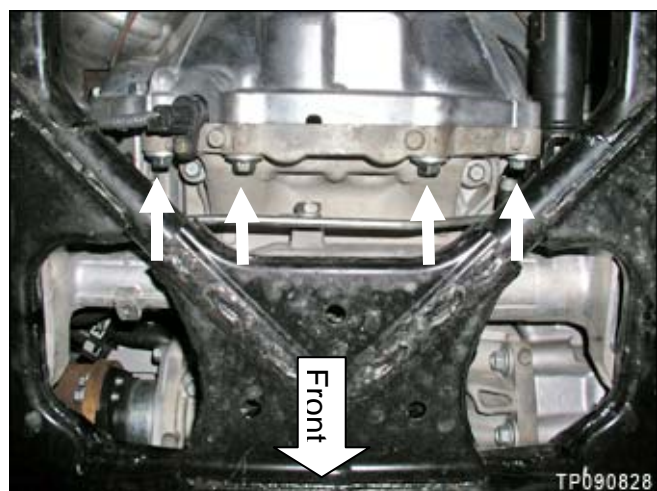

Figure 2
- The 4 bolts shown in Figure 2 will need to be removed to replace the flywheel housing.